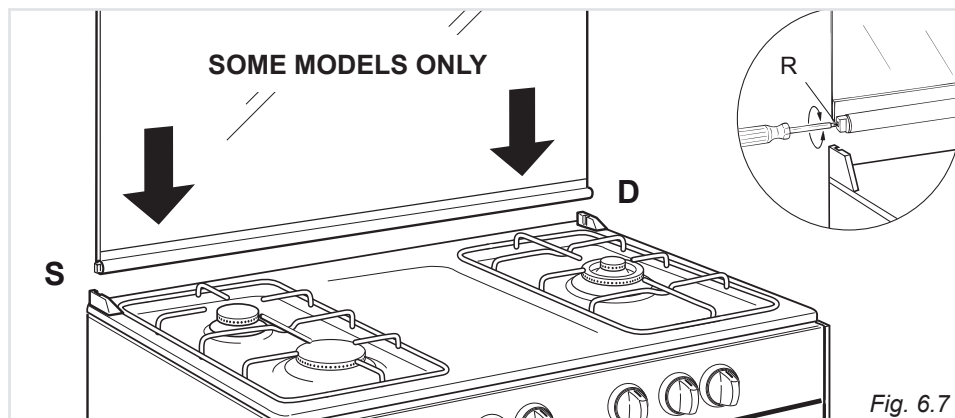

Fig. 6.7
- The right housing must receive the hinge marked “D” while the left housing must receive the hinge marked “S” (Fig. 6.7)
If necessary, register the calibration of the hinge springs using the screws “R” (fig. 6.7).